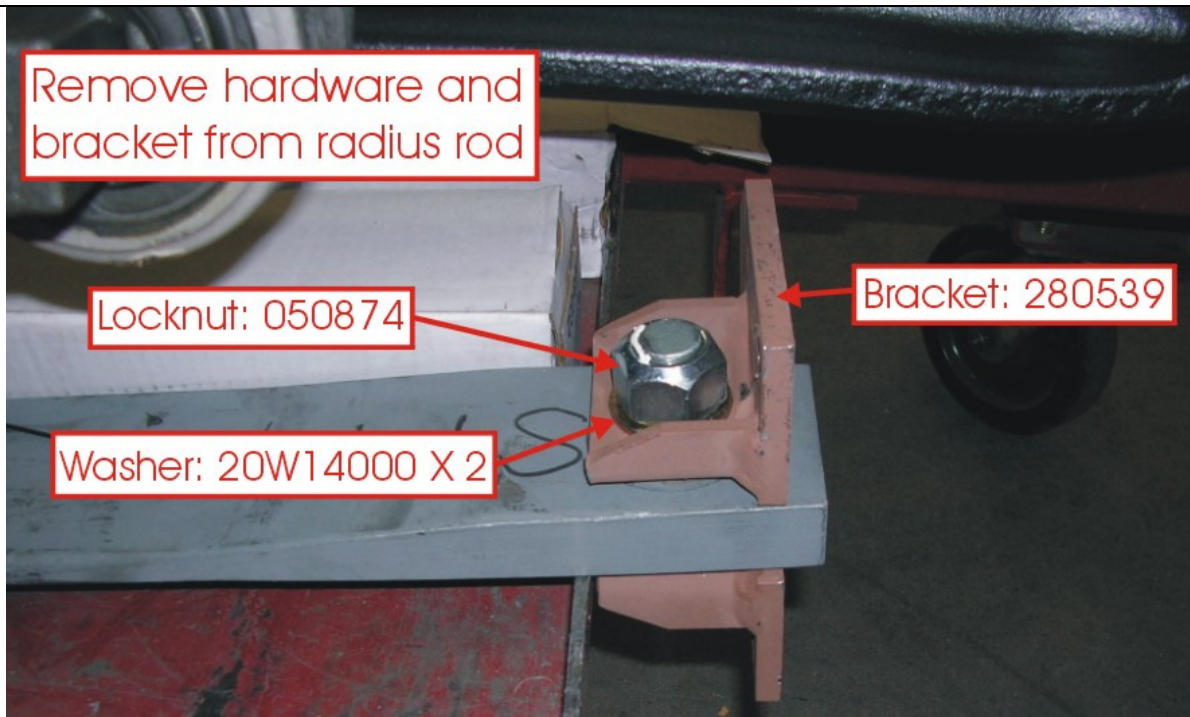

Figure 3: Radius rod hardware and bracket.
- e. Remove hardware from the radius rod mounting bracket. Bracket, washers and locknut may be discarded. Keep bolt for reuse. See Figure 3.
- f. Take new bracket (PN 280539) and install on radius rod reusing bolt, new washers (PN 20W14000) and new locknut (PN 050874). Torque hardware to 450 ft-lbs with Never-Seez. See Figure 3.